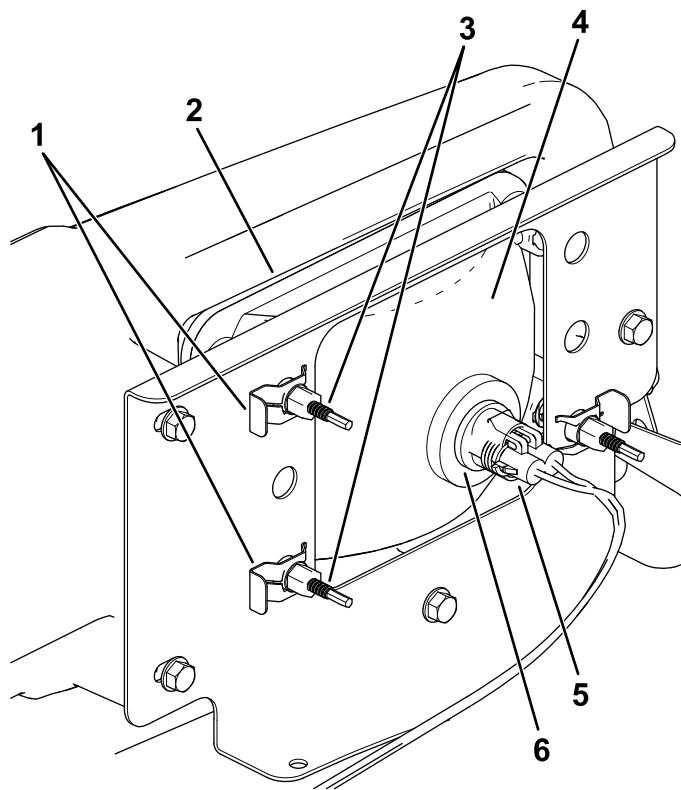

Figure 52
3. Disconnect the electrical connector for the harness from the connector of the lamp assembly (Figure 52).
4. Remove the speed clips that secure the headlight to the headlight bracket (Figure 52).
5. Remove the headlight assembly by moving it forward through the opening in the front bumper (Figure 52).
6. Install the new headlight through the opening in the bumper (Figure 52).
8. Connect the electrical connector for the harness to the connector of the lamp assembly (Figure 52).
5. At the back of the headlight assembly, rotate adjustment screws (Figure 52) to pivot the headlight assembly and align the position of the cast beam.